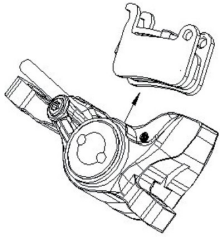
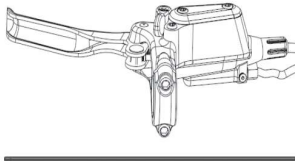

Figure 2-5 Removing/Assembling the Brake Pads and Accessories
Figure 2-6 Brake oil reservoir is parallel to the ground
- ② Remove the wheel and take the brake pads out from the front opening of the disc brake caliper (see Figure 2-5).
- ③ Clean the brake caliper piston and the surrounding area.
- ④ Position the bicycle so that the brake oil reservoir is level with the ground. Then remove the oil reservoir sealing screw (see Figure 2-6).
- ⑤ Carefully push the piston fully back into the caliper without tilting or forcing it. Note: Brake oil may overflow from the reservoir during this step.
- ⑥ Install the new brake pads and reinstall the wheel.
- ⑦ Pull the brake lever several times to ensure that it is firmly engaged and operating correctly.
- ⑧ Check that the brake disc rotates freely without interference, then secure the wheel.
- ⑨ Tighten the oil reservoir sealing screw and return the handlebar to its normal riding position.
On the disc brake caliper body, refer to the brake pad replacement procedure (shown in Figure 2-5) when the piston action or projection on both sides is uneven or when the brake pad interferes with the disc.